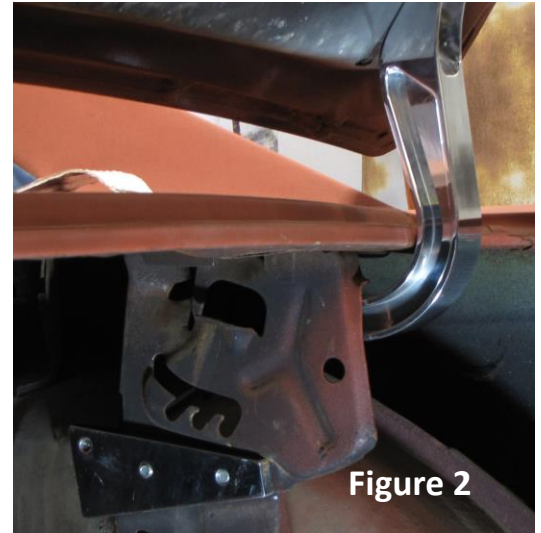

Figure 2
8. From the center of the car, position the strut mount bracket on the torsion rod bracket as shown (figure 2 & 3). Drill and fasten with 5/16-18 button head bolts